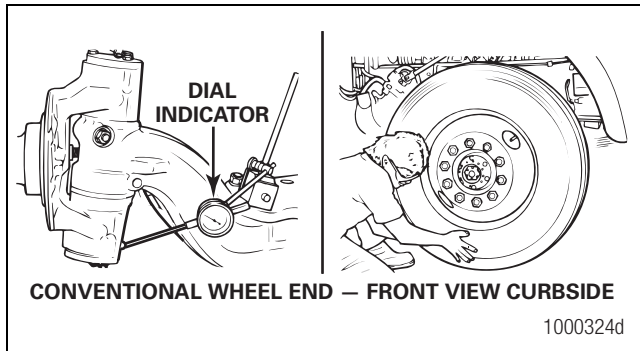
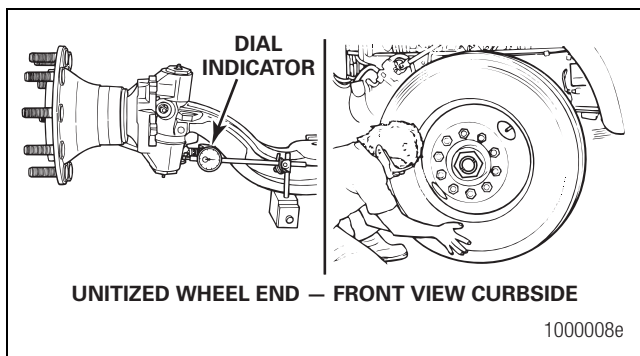

Figure 3.8
Figure 3.9
6. Check the lower king pin bushing. Install a dial indicator so that the base is on the I-beam and that the tip is against the side of the bottom of the knuckle. Figure 3.8 and Figure 3.9.
- **If the dial indicator moves a total of 0.015-inch (0.381 mm):** The lower bushing is worn or damaged. Replace both bushings in the knuckle. Refer to Section 4, Section 5 and Section 6. Figure 3.8 and Figure 3.9.